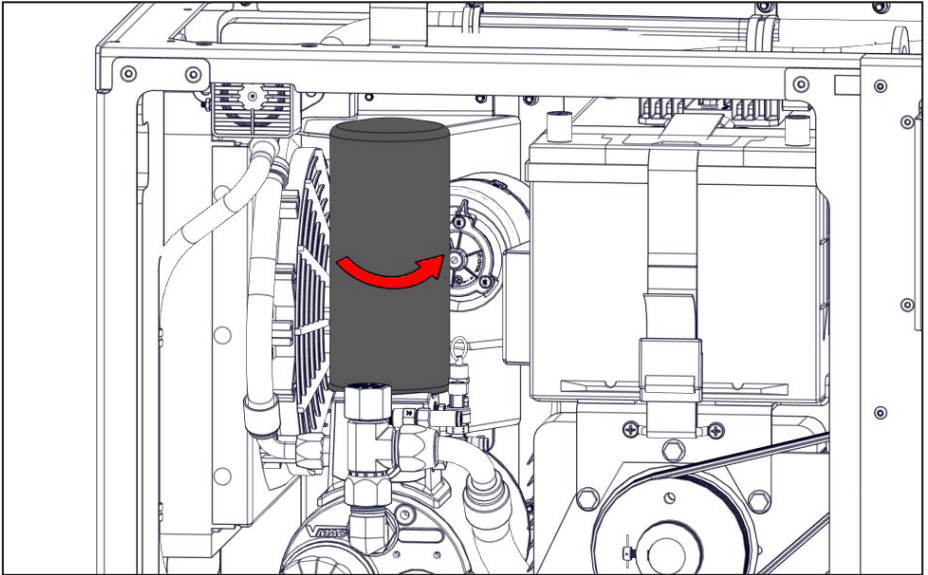

Figure 33 — Remove the coalescing filter
- Remove the coalescing filter, being careful to avoid damaging the scavenge tube or screen (Figure 33).